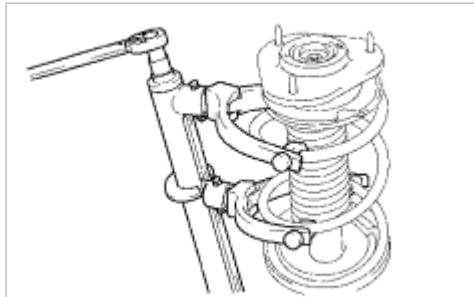

Fig. 4-1
- Remove the lock nut, spacer, upper support assembly, spring seat, bumper, and insulator (Fig. 4-1).